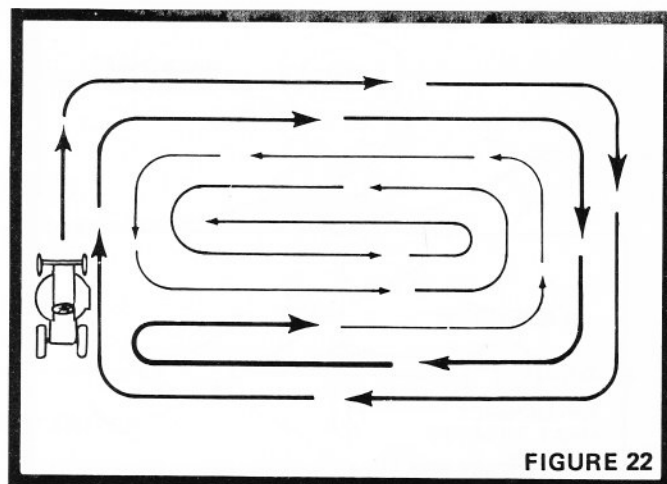

FIGURE 22
6. Drive so that clippings are discharged onto the area that has been cut. Have the cut area to the right of the machine. This will result in a more even distribution of clippings and more uniform cutting. When mowing large areas (Fig. 22), start by turning to the right so that the clippings will be discharged away from shrubs, fences, driveways, etc. After two or three rounds, mow in the opposite direction making left hand turns until finished. If grass is extremely tall, it should be mowed twice. The first time cut relatively high. The second time to the desired height. The left hand side of mower should be used for trimming.